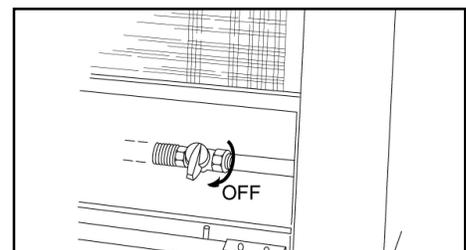

Figure 30
- a. To turn off the gas and locate the manual shutoff valve in the control area in the bottom of the appliance, turn the manual shutoff valve so it is perpendicular to the gas line. See Figure 30.